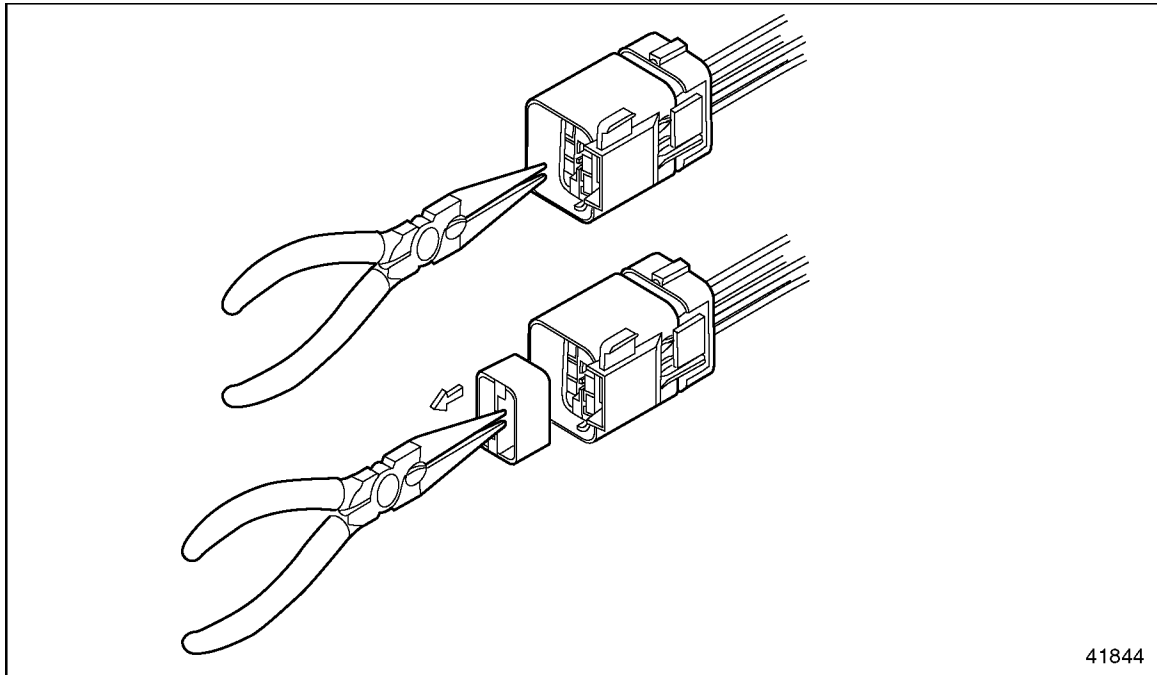

Figure 3-29 Removing the Terminal
1. Using pliers pull out the blue Terminal Position Assurance (TPA) that is located inside the connector (see Figure 3-29).
- Pull the cable back through the connector (see Figure 3-29).